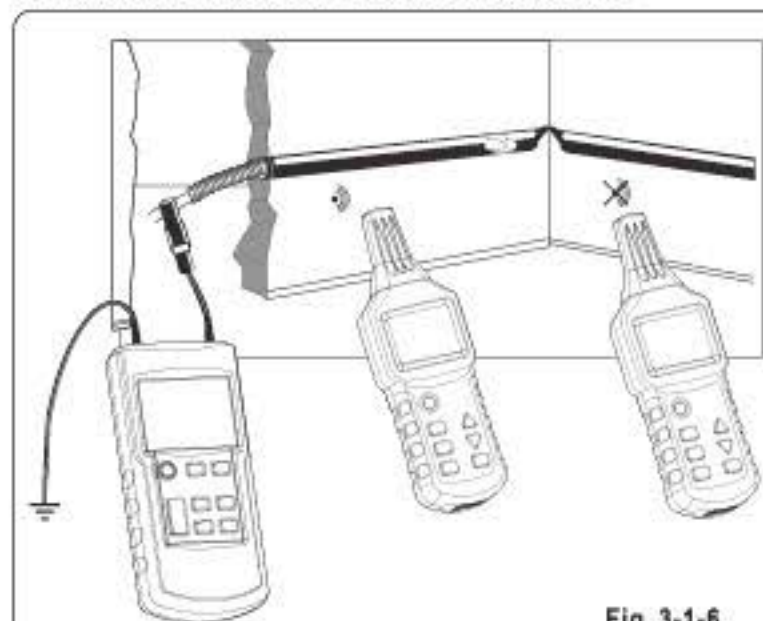

Fig. 3-1-6
- The transmitter is connected to a metal helical tube (metal tube or flexible conduit) and an auxiliary ground wire, as shown in Fig.3-1-6;